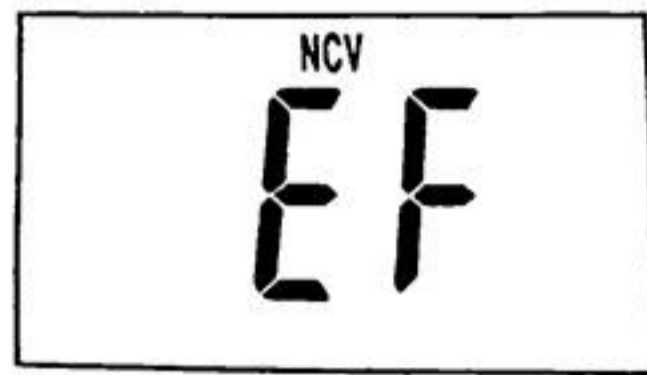

Figure 3
1. Set the rotary switch in **NCV** position. The display shows "EF" ( refer to Figure 3 ).